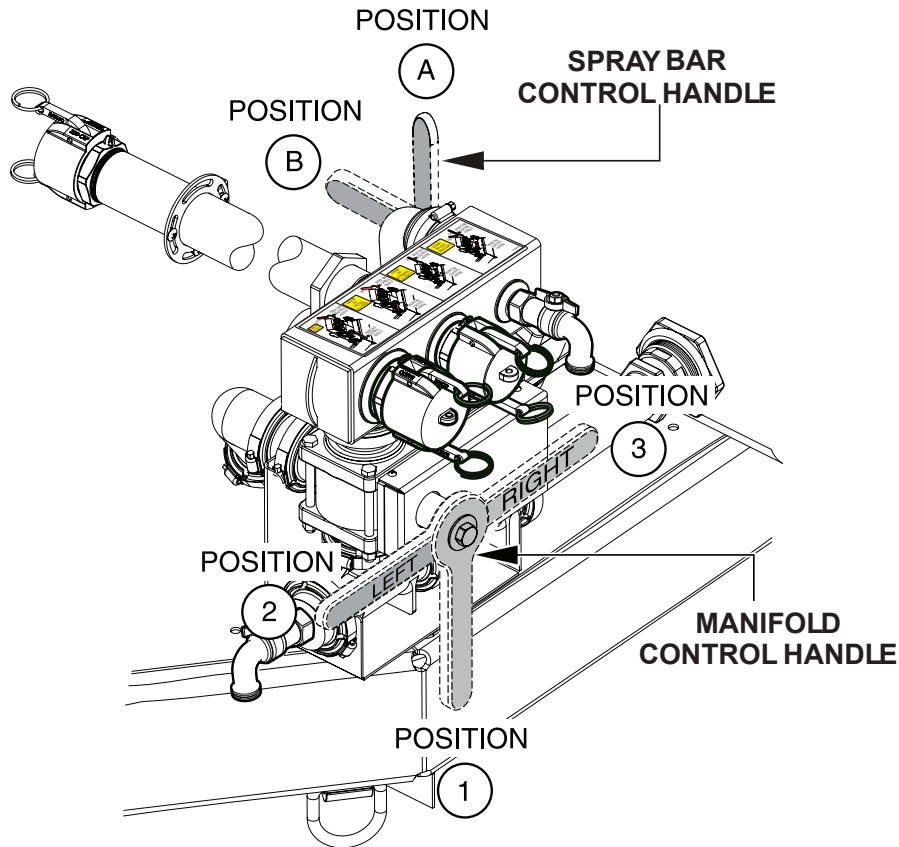

**Figure 15. Fuel Valve Lever (OFF)**
- Place the fuel shut-off lever (Figure 15) in the **OFF** position.